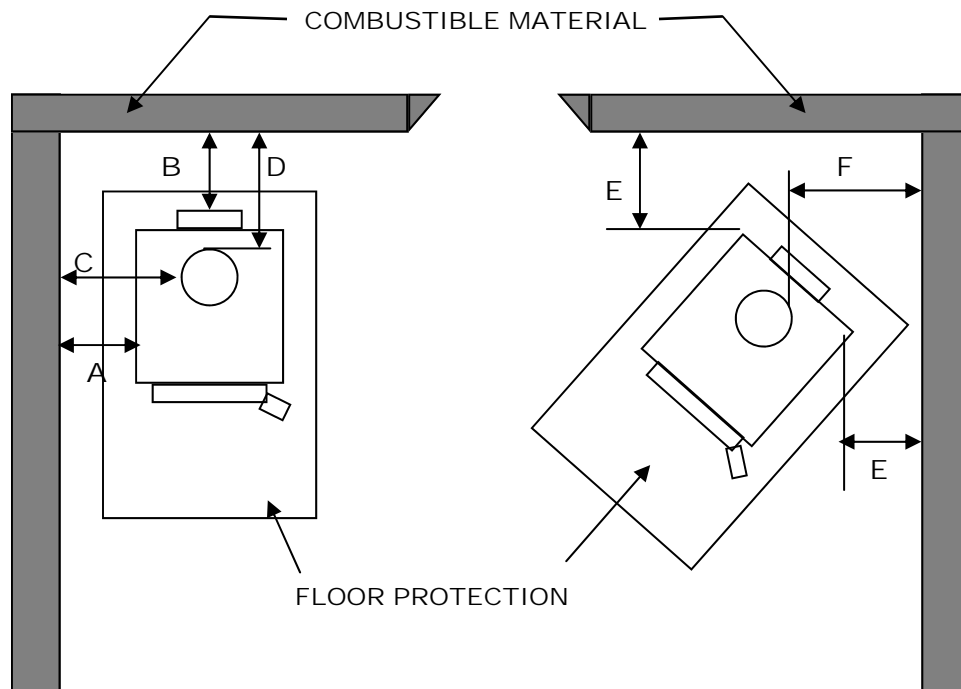

FIGURE 3
- 2) Minimum clearances shown in figure 3 must be adhered to. The stove and chimney connector may be placed closer to the wall than shown in figure 3 if the wall is properly protected. Your Blaze King dealer can advise you on methods.